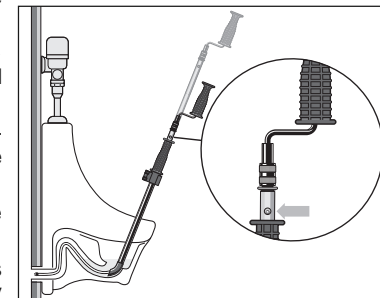

Figure 6 – Extending the Cable
8. To extend cable beyond the initial 2' (.6 m), press button (Figure 6). Pull crank handle/drill up until button locks into second hole.